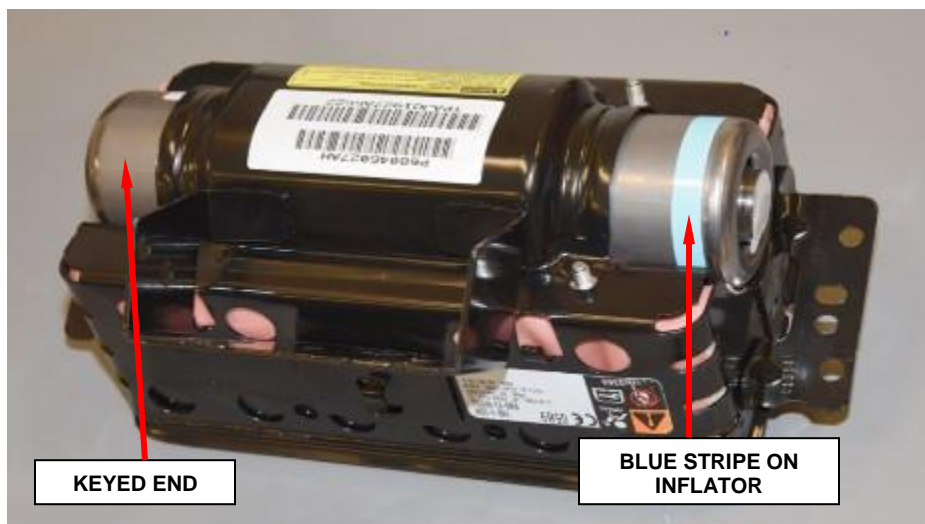

Figure 70 – Insert Inflator (Shown with Cushion Installed)
- j. Slide **new** inflator into housing. The keyed end is inserted first, therefore the blue stripe on the inflator will be located at the open end, as shown (Figure 70).